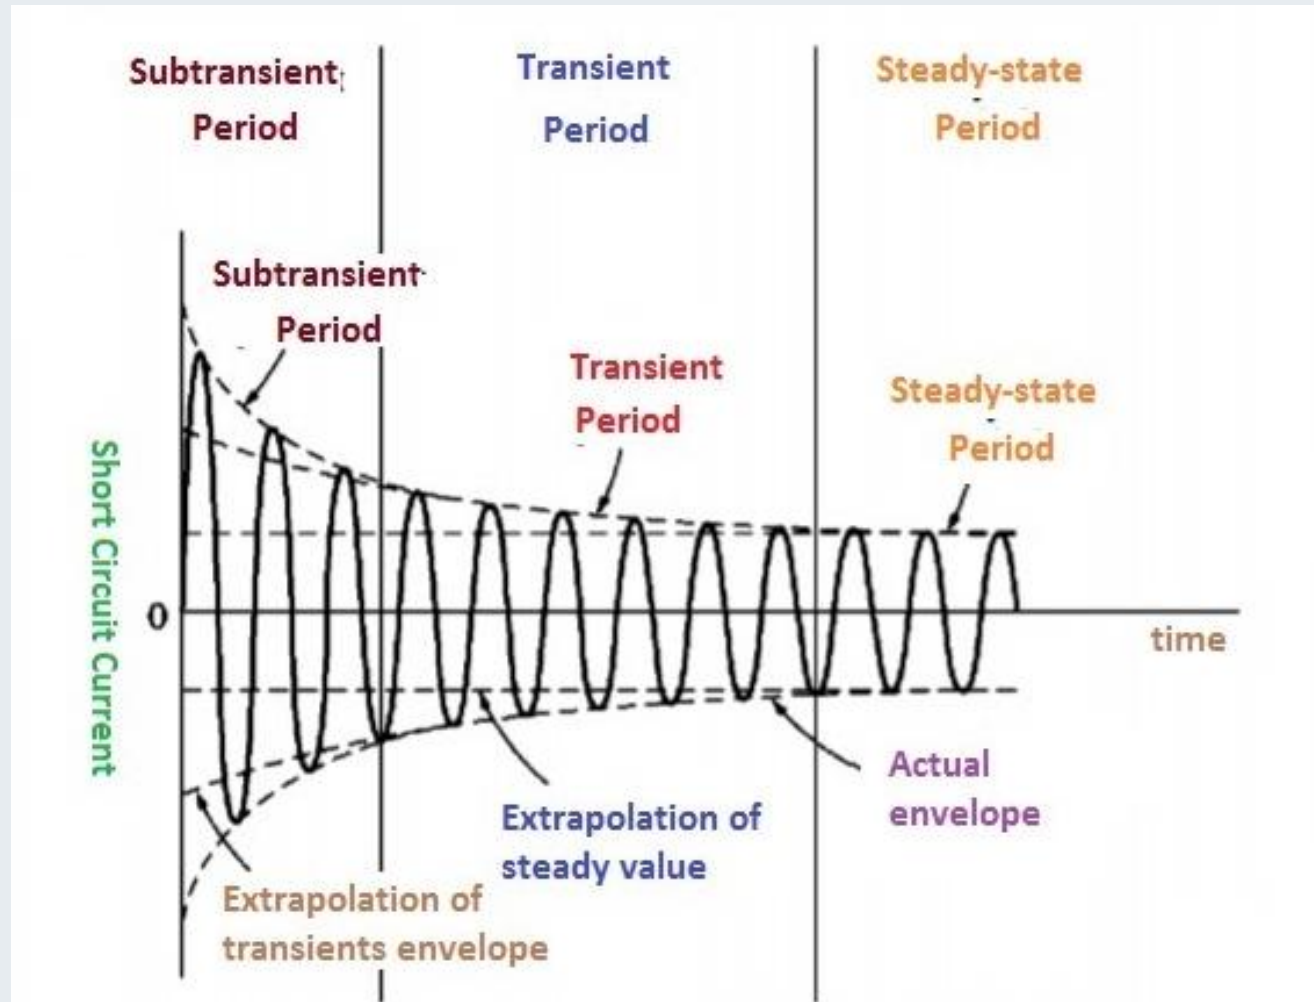

Figure 5. The three types of currents during fault response of synchronous machine.
- A synchronous machine's current flows in **three different ways** due to the influence of the armature current on the flux that produces the voltage: immediately following the fault, a few cycles later, and under sustained or steady state conditions, as shown in Fig. 5.
- Furthermore, as Fig. 5 illustrates, the synchronous machine's AC current peak value varies with time.